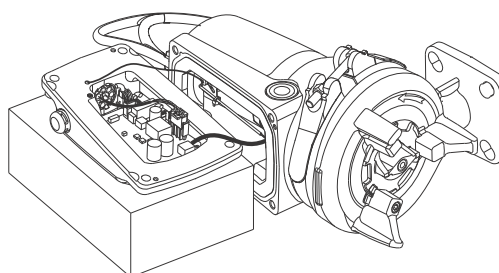

Fig. 17 Electronic unit on a block
3. Remove the four screws (188a) and place the electronic unit next to the pump on a block or similar support. See fig. 17.